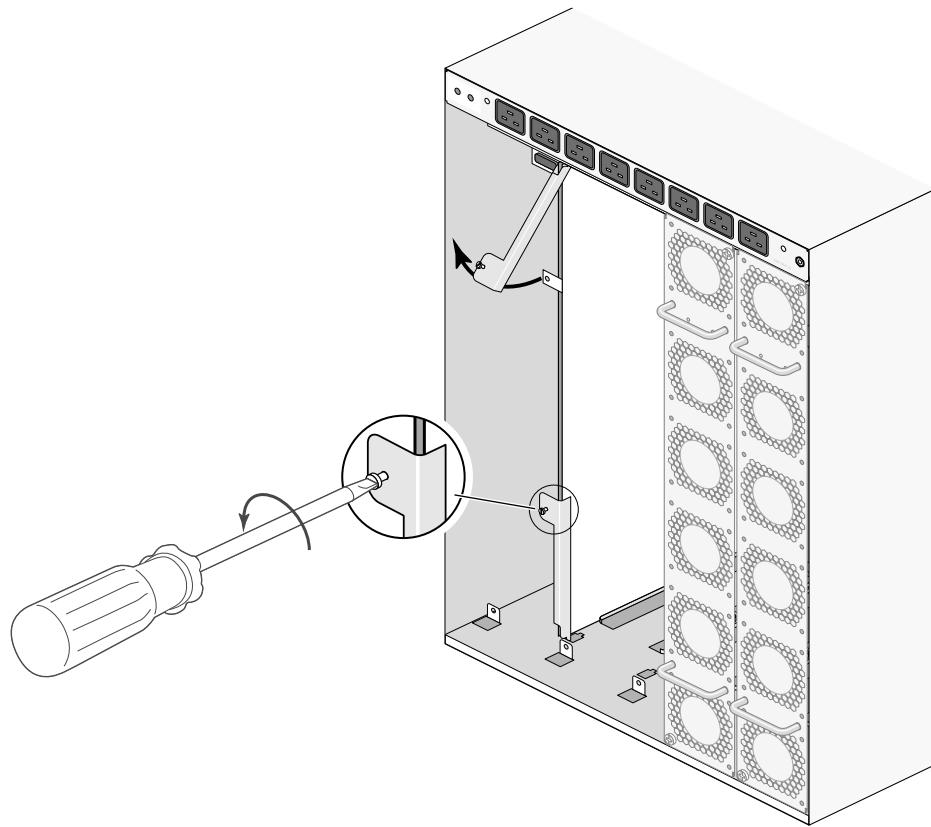

Figure 51: Unseating a Fabric Module
- b Simultaneously rotate both levers toward the ends of the module to unseat the internal connectors (Figure 51: Unseating a Fabric Module on page 79).